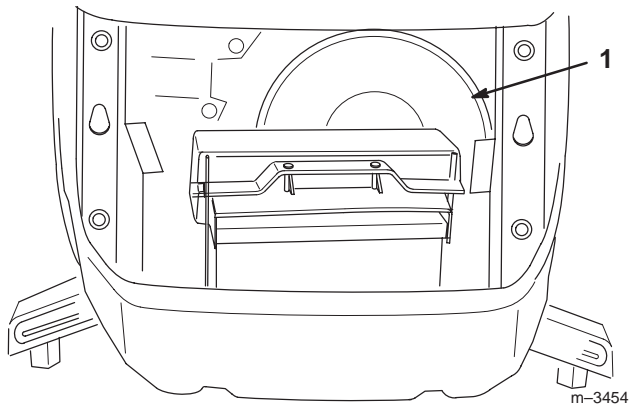

Figure 24
10. Remove the belt from around the PTO pulley (Fig. 24). Additional belt slack can be obtained (if needed) by turning the belt tension adjustment knob.